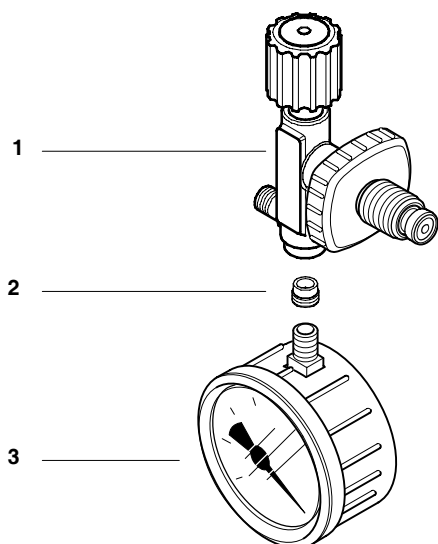

Fig. 40 Sintered metal filter
- Unscrew pressure gauge (3, Fig. 40) from filling valve body (1).
- Screw off sintered metal filter (2) with a suitable screw driver.